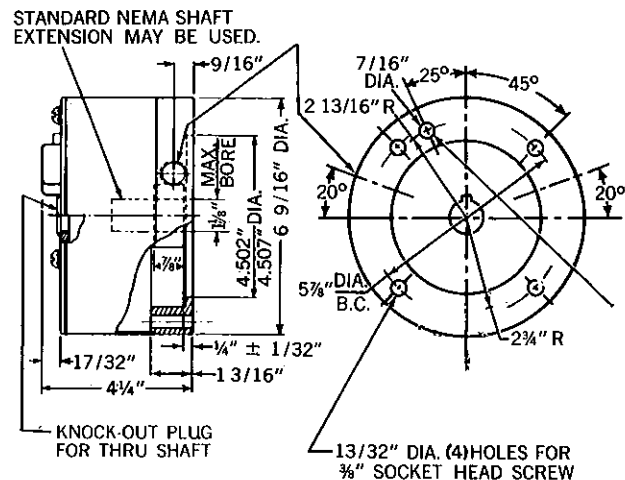
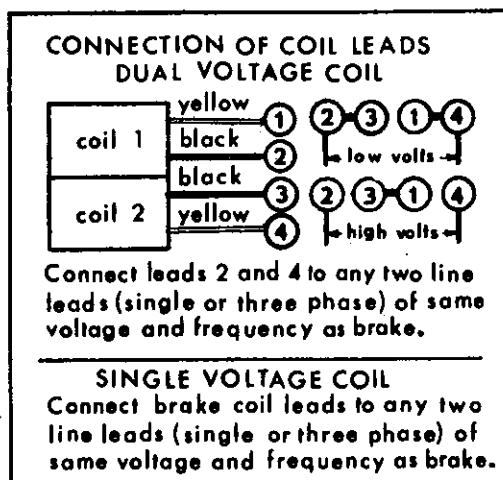

Figure 2. Outline Dimensions of Brake
Figure 4. Wiring Diagram
INSTALLATION (See Figures 2, 4 & 5)
1. Remove hub (1) from brake and position on motor shaft with key as illustrated in Figure 2. Stamped part number on hub should face away from motor. Tighten hub set screws to shaft with 6-8 lb. ft. torque.
2. Remove cover (30) and position brake over hub on shaft. Bolt brake to motor flange or floor mount.
3. Connect coil wire leads as indicated in Figure 4. Replace cover.